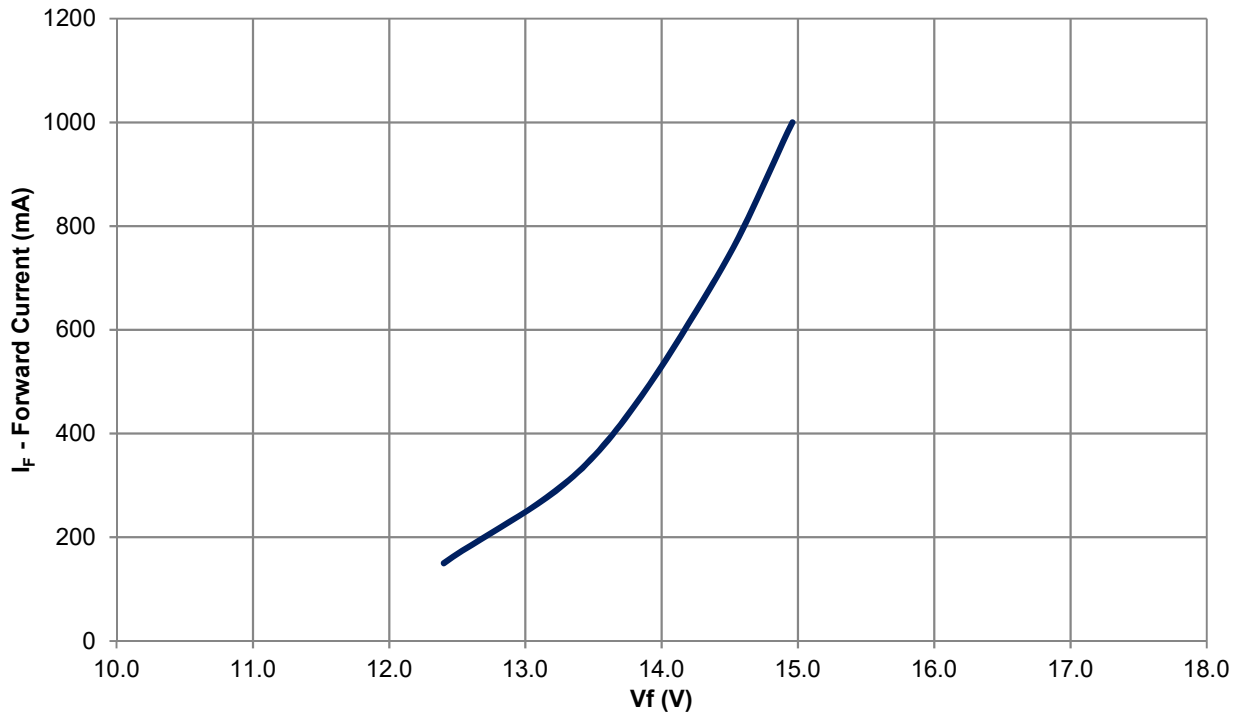

Figure 6: Typical forward current vs. forward voltage @ T_c = at 25°C
- Refer to Figure 6 for typical dominant wavelength shift over forward current.
Note for Figure 6: